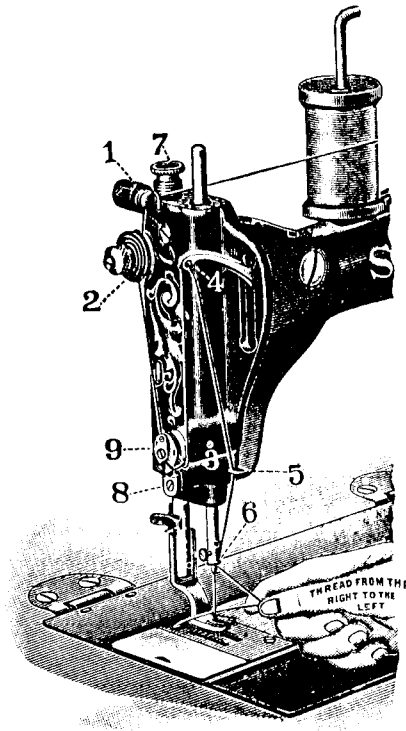
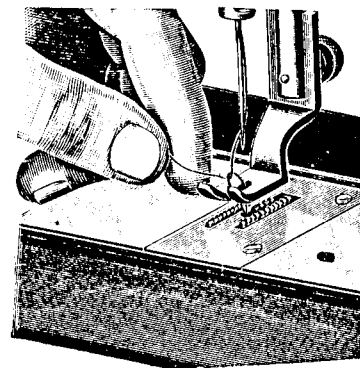

Fig. 3
Fig. 9
Place the spool on the spool holder, pass the thread under the thread retainer guide wire, through thread retainer (1), down (back) between tension discs (2), thence under thread controller spring (3), up into take-up lever (4), down to thread leader (5) and needle bar thread guide (6), then thread the needle from right to left as shown in Fig. 3 and draw two or three inches of thread through the eye of the needle when the take-up lever is at its highest point.
the end of the upper thread slack between the hand and needle and turn the balance wheel carefully from you while the needle goes down and up, and the point down to the presser foot (see Fig. 3), bringing the take-up lever to its highest position. Then draw up the upper thread and the under thread will come up with it (see Fig. 9). Pass both threads back under the presser foot.
Regulate the tension on the upper thread by turning the nut on top of tension (see 2, Fig. 3) toward you to tighten and from you to loosen the tension. When the presser lifter is down the upper tension may be tested by hand.
Turn presser bar thumb screw (7, see Fig. 3) over to the right to make the pressure heavier or over to the left to make it lighter; the pressure should be only heavy enough to prevent the material from rising with the needle and to insure the feed moving the work along evenly; a heavier pressure would make the machine run harder and be of no benefit.
To vary the tension of the controller spring, loosen the set screw near (3, see Fig. 3) at the right of the spring, remove the face plate, then from the inside turn the stud forward or backward as required and tighten the set screw. In any case where an unusually light tension is used, the tension on the controller spring should be correspondingly light. The coils of the controller spring should be oiled occasionally.
To Place a New Thread Controller in Position. Remove the entire thread controller by taking out screw (8, see Fig. 3) and release the spring by removing screw (9). (Be careful not to lose the small roller.) Place the new spring, roller and screw in their positions. Next put the entire thread controller on the face plate, taking care to slide the little tail, on the coil of the spring, into the notch in the stud over which the coil slides.